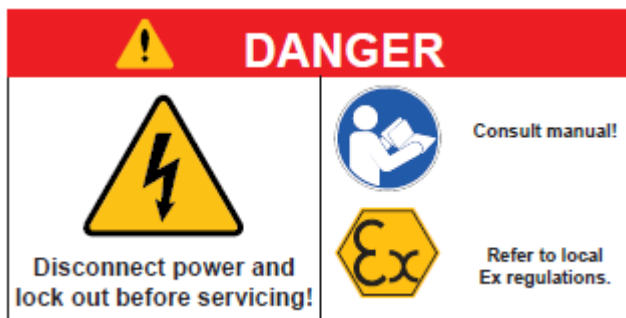

Figure 3 Analyser controller right side (terminals)
5. Warnings for analyser controller right side. Refer to Figure 3.